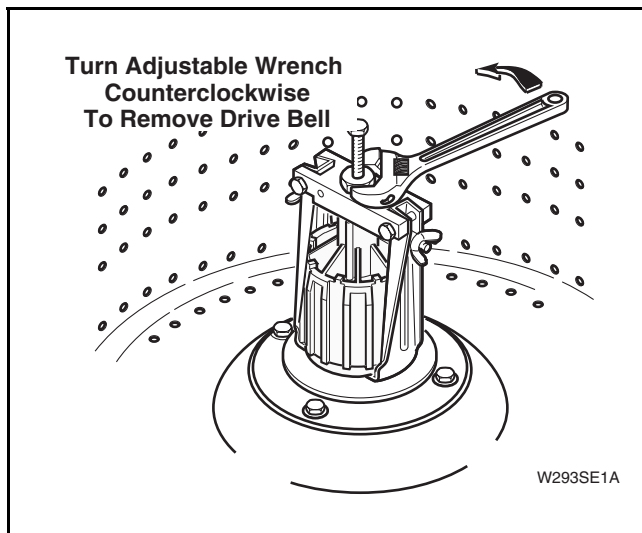

Figure 23
- Using an adjustable wrench, turn large nut on tool **COUNTERCLOCKWISE** to pull drive bell from transmission output shaft. Refer to *Figure 23*.